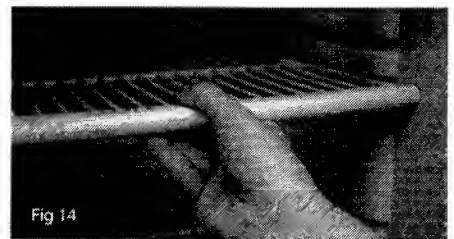

Fig 14
- Make the most of the interior storage space by repositioning shelves (Fig 14) to suit the various heights of the individual items you wish to store.